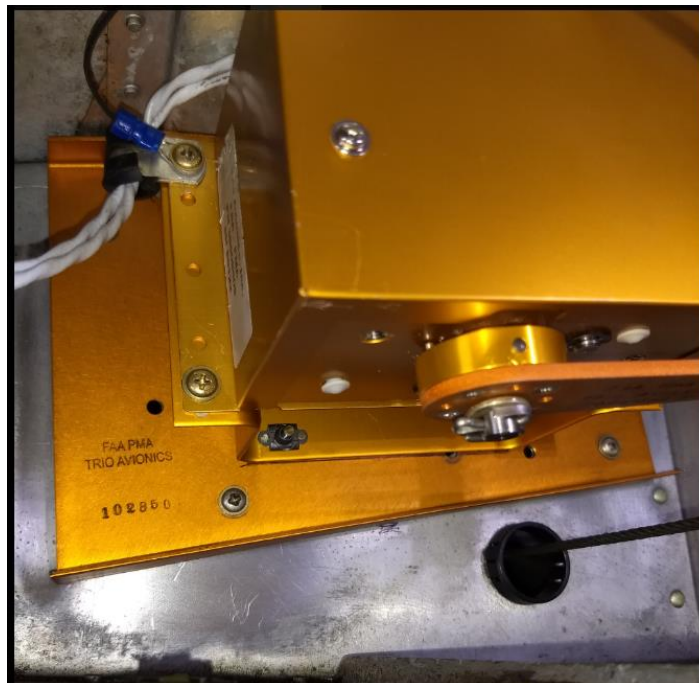

FIGURE 4-9 ROLL SERVO ASSEMBLY
4.1.15 Install the four (4) screws supplied in the hardware kit through the servo baseplate into the mounting bracket. Refer to Figure 4-9.